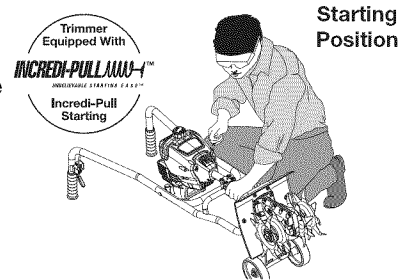

Fig. 8
4. Crouch in the starting position (Fig. 8). Do not squeeze the throttle, and pull the starter rope with a controlled and steady motion until the unit starts. Wait 10 to 15 seconds, then squeeze the throttle to control the tine speed.